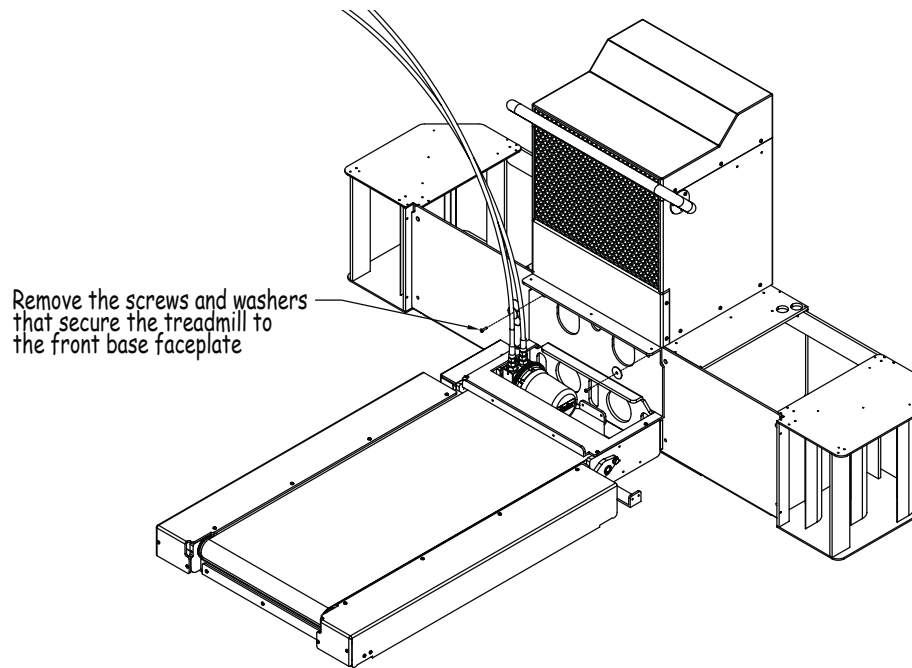

Fig 8
8. Remove the screws and washers that secure the treadmill to the front base faceplate (Fig 8). The treadmill can then be carefully positioned away from the front base faceplate.